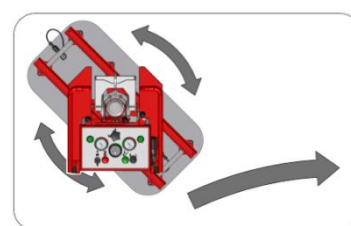
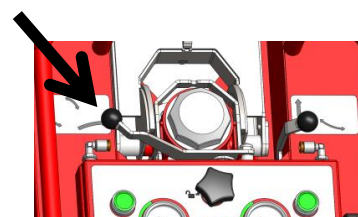

Figure: 13
Figure: 14
- Operate the rotate toggle (see figure 14), to the left of the lifting eye, labelled with the rotate sticker (see figure 13).